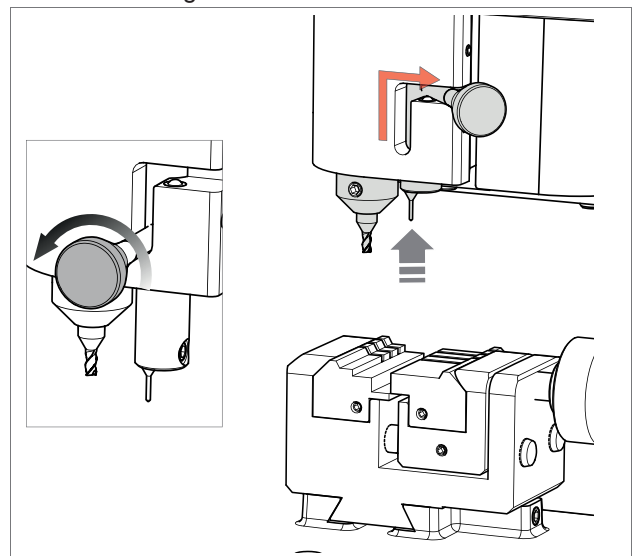

Fig. 34
- **EXCLUDING THE TRACER 01T (Fig. 34)**
**NOTE: for cutting and/or decoding operations with the tracer point 02T, the tracer 01T must be in the idle position (Fig. 34). REPLACE THE 02T TRACER WITH THE REQUIRED CUTTER PRIOR TO ATTEMPTING TO CUT A KEY.**